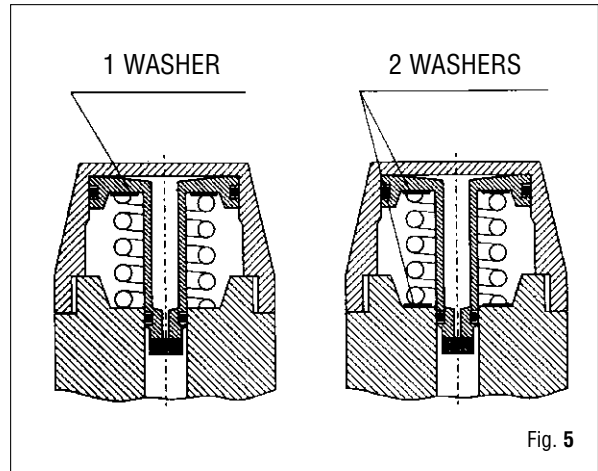

Fig. 5
- b. If two washers are present place one against the piston and place the second washer into the first stage body (Fig. 5).
10. Slightly lubricate the base of the spring (8) then place it into the first stage body.
11. Thread cover (85) onto first stage body and tighten into place with a pin wrench.
13. Install O-rings (19) and (52) onto hoses or port plugs (20) and (53). Thread hoses and port plugs into appropriate ports and tighten.